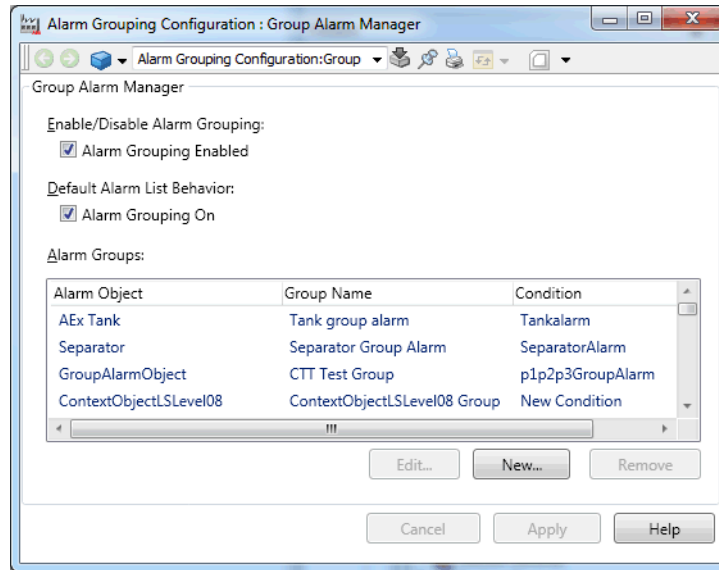

Figure 63. Group Alarm Manager
2. Select the **Group Alarm Manager** aspect (refer to Figure 63).